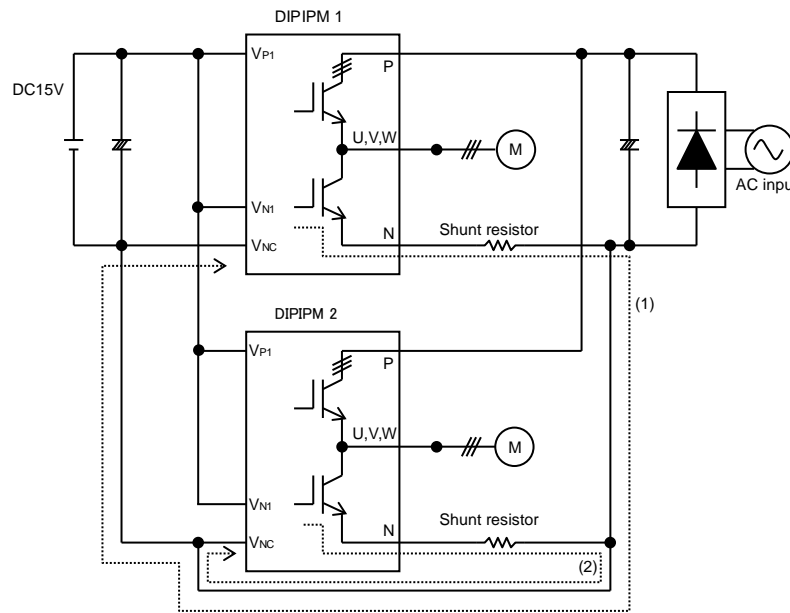

Fig.3-1-13 Parallel operation
Fig.3-1-13 shows the circuitry of parallel connection of two DIPIPMs. Route (1) and (2) indicate the gate charging path of low-side IGBT in DIPIPM No.1 & 2 respectively. In the case of DIPIPM 1, the parasitic inductance becomes large by long wiring and it might have a negative effect on DIPIPM's switching operation. (Charging operation of bootstrap capacitor for high-side might be affected too.) Also, such a wiring makes DIPIPM be affected by noise easily, then it might lead to malfunction. If more DIPIPMs are connected in parallel, GND pattern becomes longer and the influence to other circuit (protection circuit etc.) by the fluctuation of GND potential is conceivable, therefore parallel connection is not recommended.